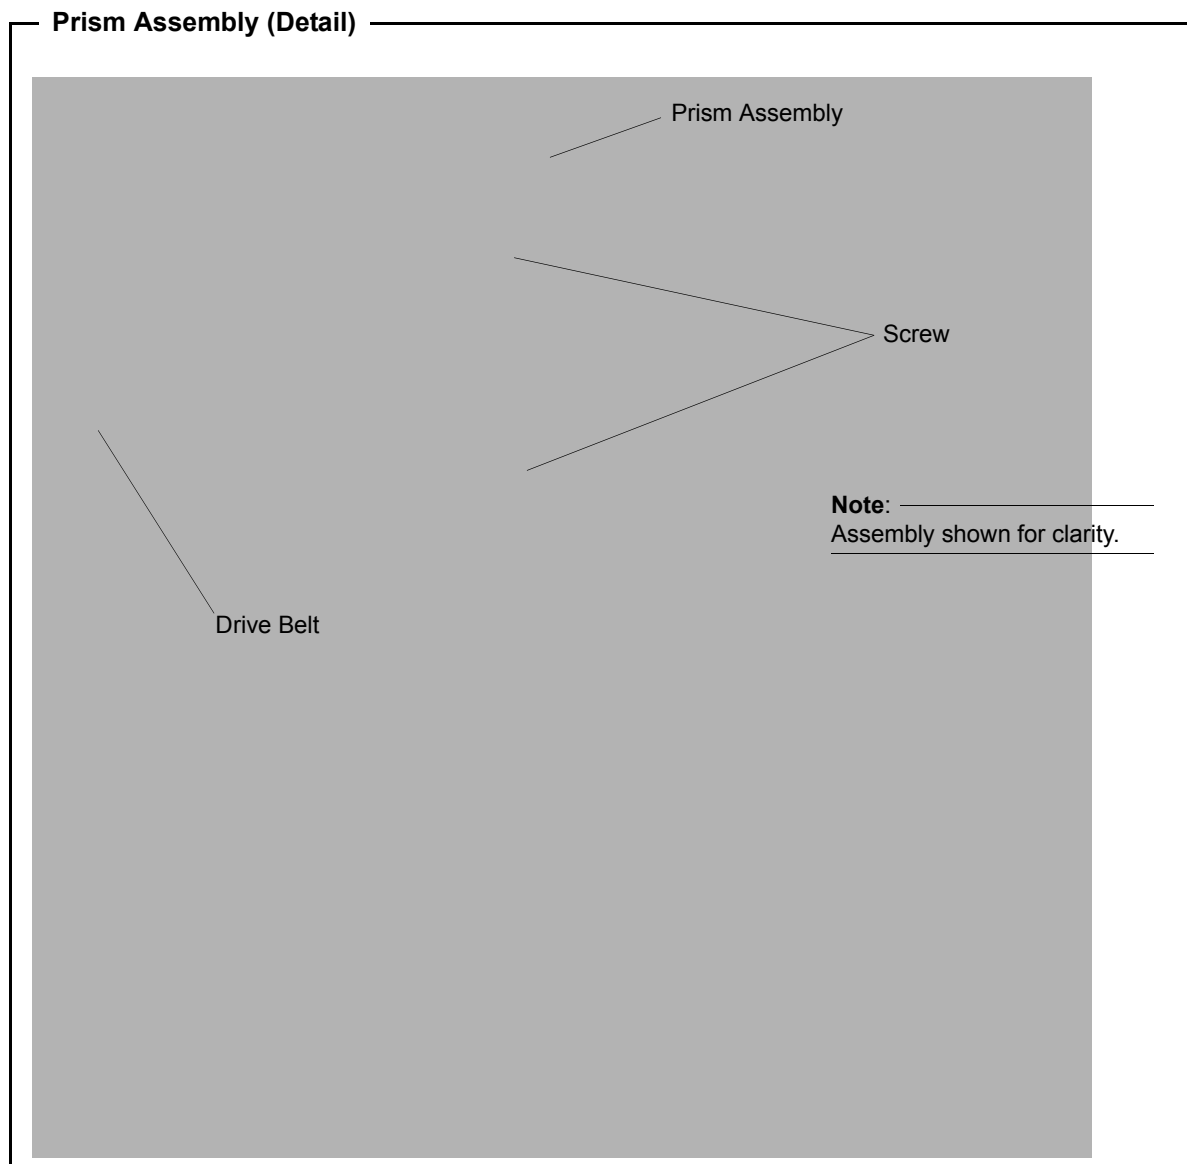

Figure A-13: Prism Assembly Detail
- Step 6. As indicated in Figure A-13 remove two screws securing prism to arm. **IMPORTANT!** *Be careful not to lose removed screws. These will be required for reassembly and installation.*